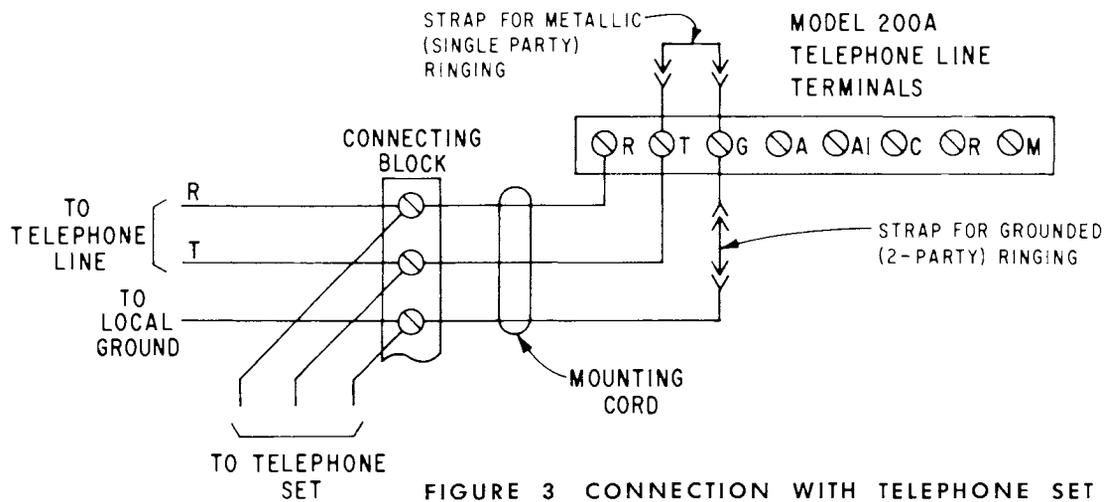

FIGURE 3 CONNECTION WITH TELEPHONE SET ONLY
- a. As in fig. 3 for use with telephone set only, either with individual or 2-party service, or with private exchange (PBX or PABX) line.